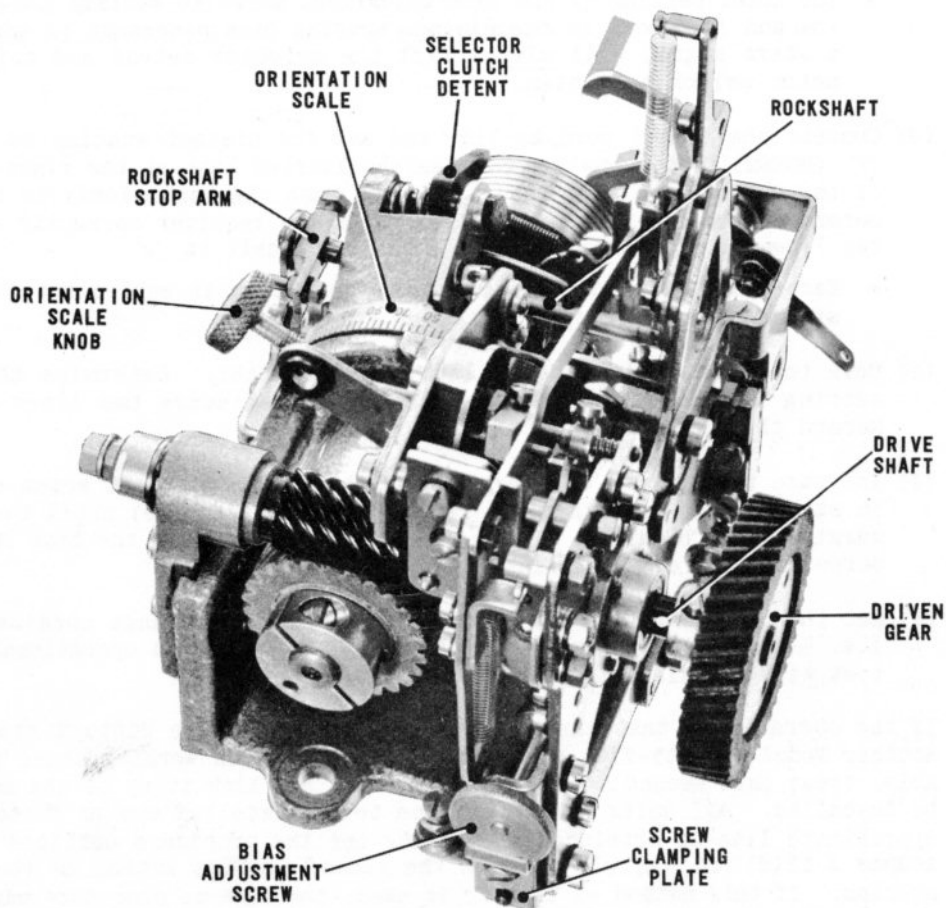

Fig. 2.2 SELECTOR UNIT—SINGLE-SPEED MODEL
- Fig.2.2 Selector Unit - Single-speed Model
(a) Connect the signal cord to line and ask the distant station to transmit 'Y' (MSMSM) continuously. Slacken the knurled knob at the right-hand end of the orientation scale, Fig.2.2, and push the knob slowly to the left. Determine the earliest setting for which the receiver correctly registers two lines of 'Y's. Record this setting and call it 'a'.
(b) Connect the power supply plug and press the 'Y' (MSMSM) key on the keyboard. The machine will now run-out 'Y's until it is stopped by turning the rock-shaft stop arm, Fig.2.2, in a clockwise direction and so arresting the clutch. During this run-out operation, carry out the line-up procedure outlined in paragraphs 2.10(a) to (c) above. Remove the adaptor.
3.9 Keyboard Machines. Before any further local tests are carried out, ensure that the selector unit remains in the rest position. A convenient way to do this is to bias the electromagnet armature against the mark stop by slackening the screw clamping plate, Fig.2.2, and turning the bias adjustment screw in a counter-clockwise direction.
- (a) Switch on the motor, slacken the screw clamping plate, Fig.2.2, and turn the bias adjustment screw slowly in a clockwise direction until the selector clutch detent is disengaged from the trigger and the clutch rotates continuously.
- (d) Connect the signal cord to line and ask the distant station to transmit 'Y' (MSMSM) continuously. Slacken the knurled knob at the right-hand end of the orientation scale, Fig.2.2, and push the knob slowly to the left. Determine the earliest setting for which the receiver correctly registers two lines of 'Y's. Record this setting and call it 'a'.
- 5.2 Remove the screw securing the driven gear, Fig.2.2, and withdraw the gear from its shaft.